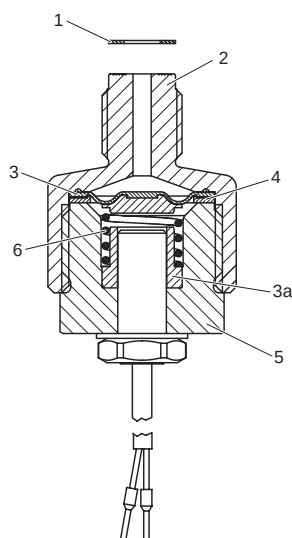

fig.: 7
- **After a diaphragm rupture there will be chemical in the diaphragm rupture detector and the intake channel in the spacer plate (5).**
- ▶ Take hold of the top section (2) of the diaphragm rupture detector (see Fig. 7).
- ▶ Secure the casing (5) with a fork wrench - not the painted nut.
- ▶ Place the new separating diaphragm (3) in the top section with the light side (PTFE) up.
- ▶ Place the washer (4) in the top section.
- ▶ Insert the spring (6) into the casing (5).
- ▶ Bring casing (5) towards the top section (2).
- ▶ Check that the spring (6) is seated correctly on the spring mounting (3A).
- ▶ Screw the casing (5) into the top and tighten screws.